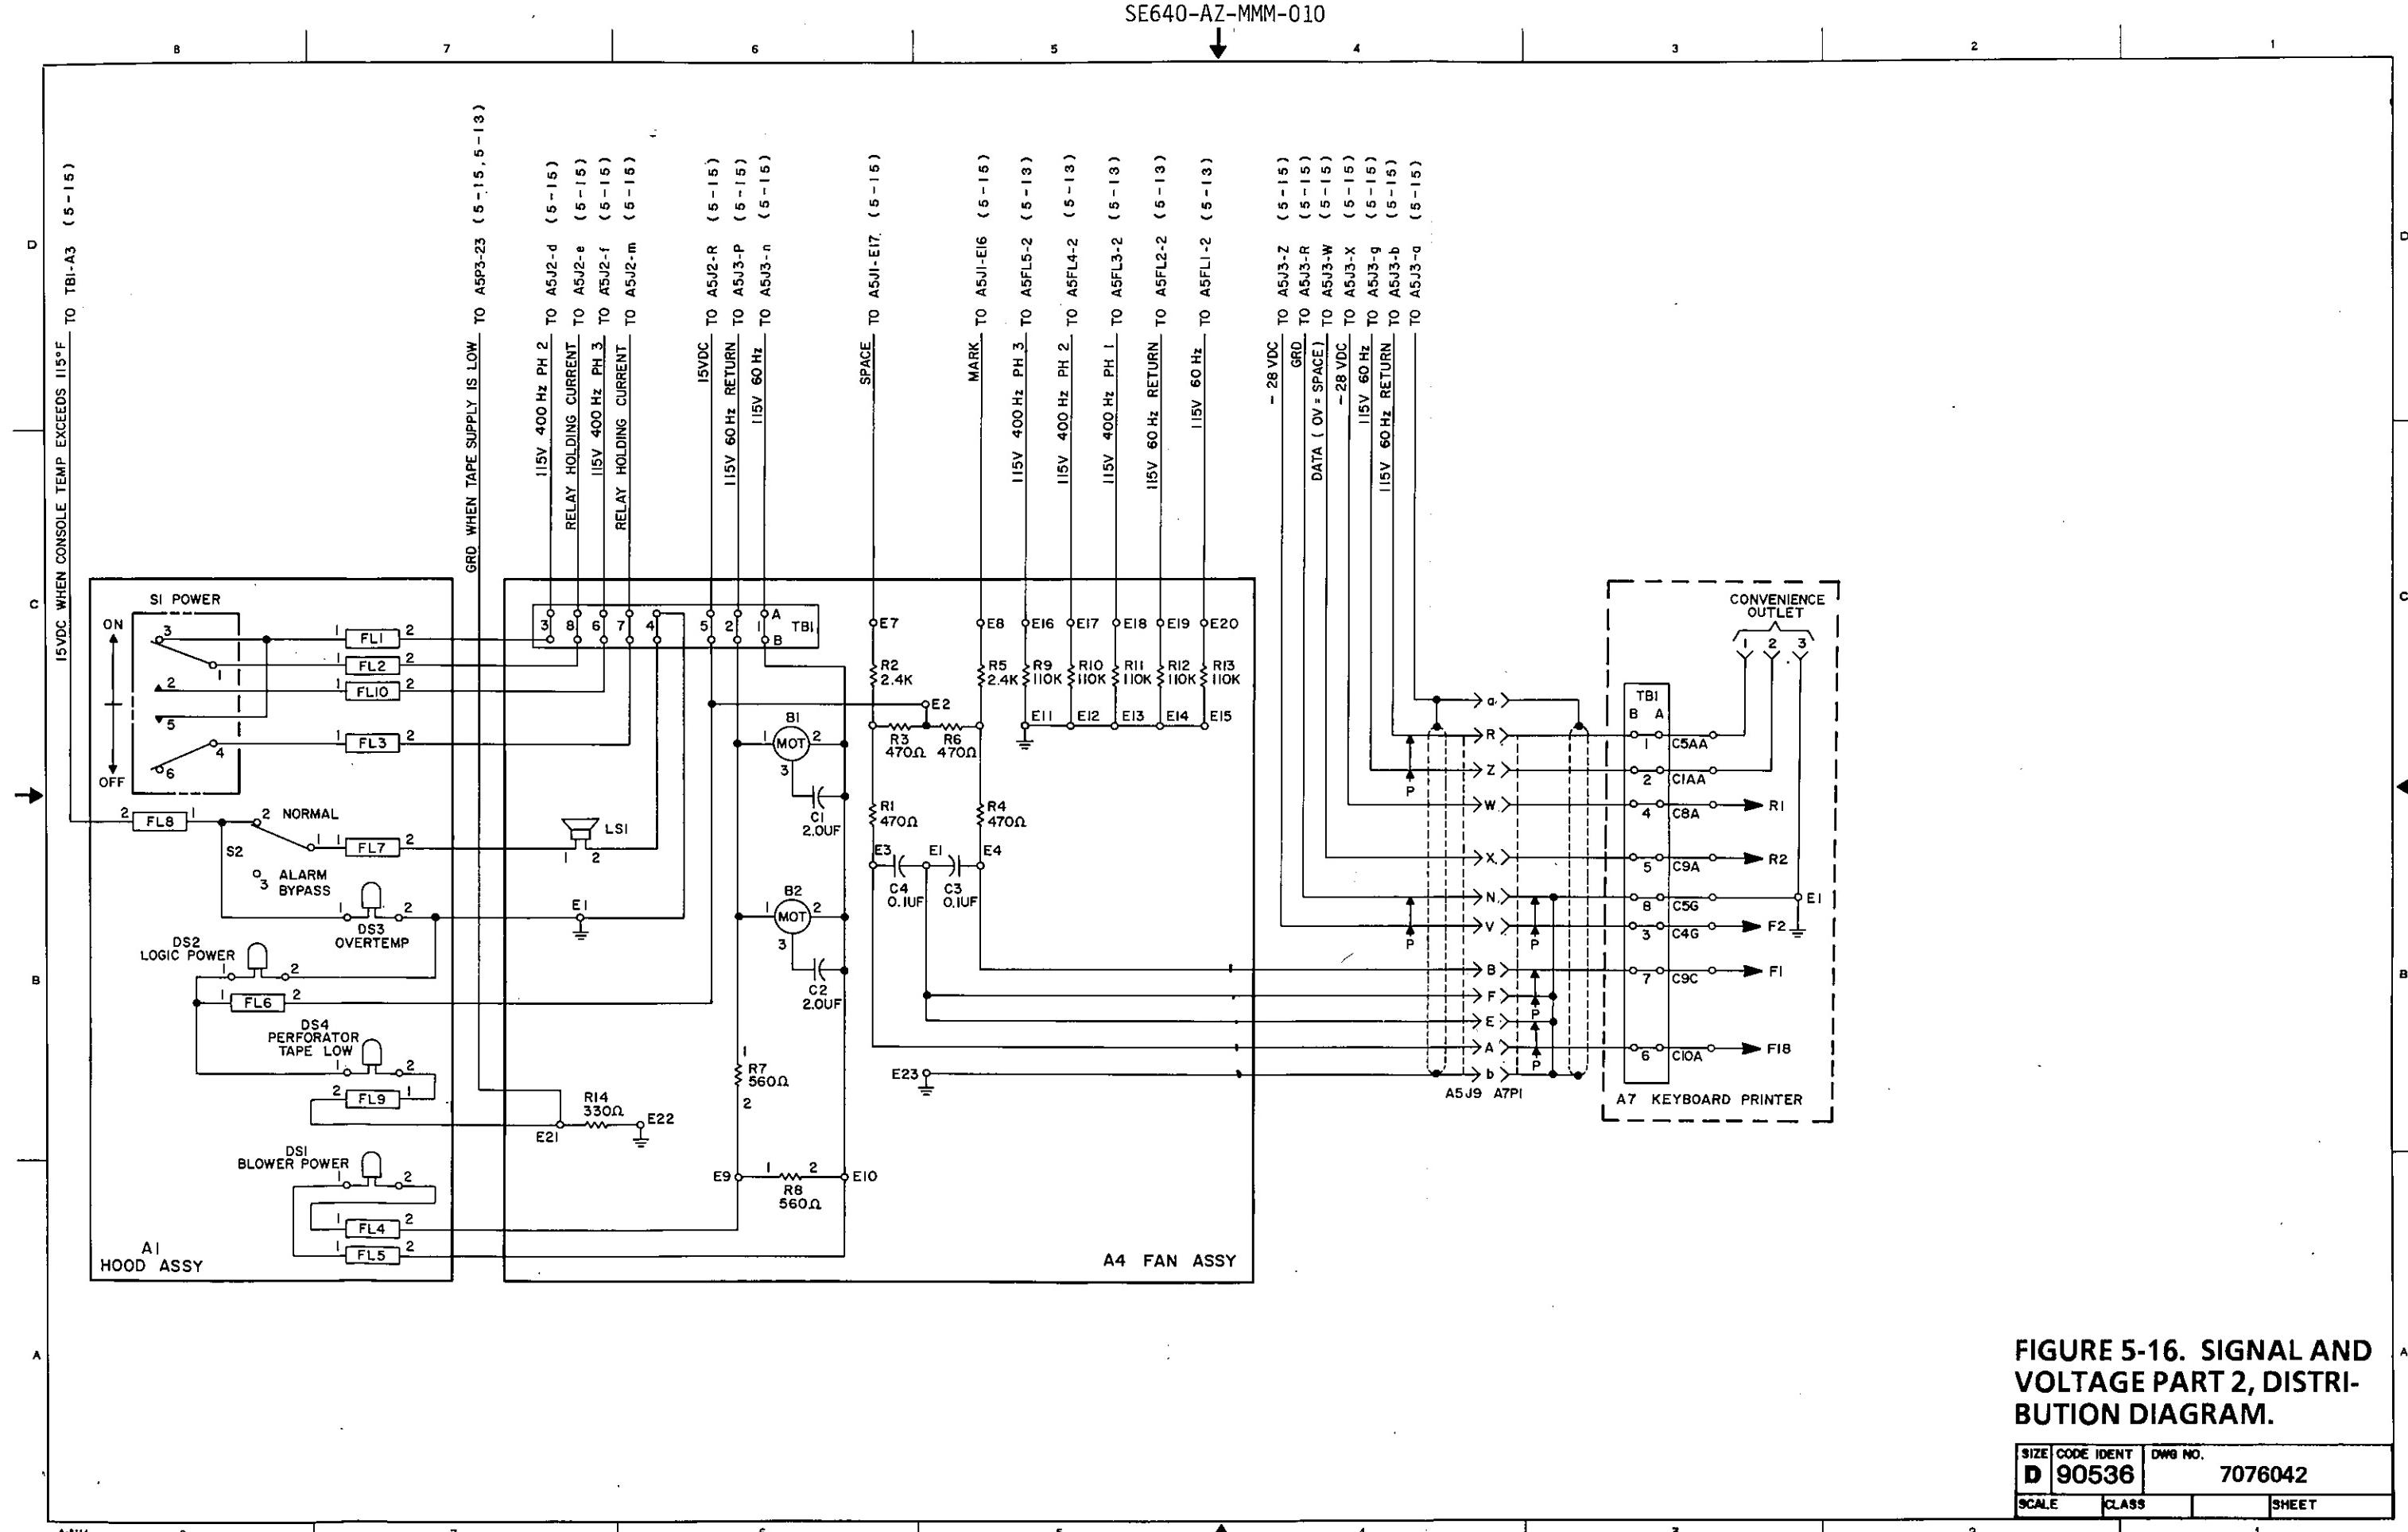

FIGURE 5-16. SIGNAL AND VOLTAGE PART 2, DISTRIBUTION DIAGRAM.
- b. Determine that BLOWER POWER (DS1) and LOGIC POWER (DS2) indicator lights are energized, showing application of operating power to fan assemblies and logic chassis. If both indicators do not light, remove power from I/O Console and perform necessary maintenance before proceeding (figure 5-16).